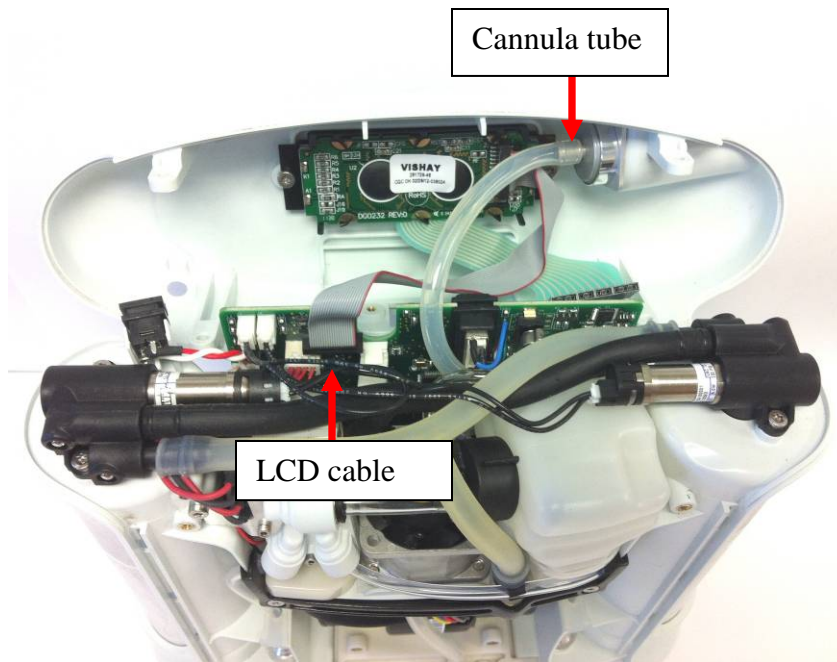

Figure 8: Remove cannula tube and power cable
8. Gently unplug the cannula tube from the user interface panel and the power cable from the motherboard (Figure 8) and set the user interface panel aside.
1. With the new feed waste manifold(s) fully installed, the user interface panel can now be replaced. Plug the LCD cable back into the motherboard (Figure 8). *Note orientation of red wire.* Re-attach the cannula tubing to the cannula connector.